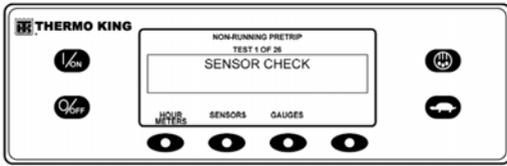

Figure 132: Pretrip Test Display
- The second line measures test progress. The number of tests completed of the total number of tests to be performed is shown. In Figure 132 the unit is performing Test 1 of 26, Sensor Check.